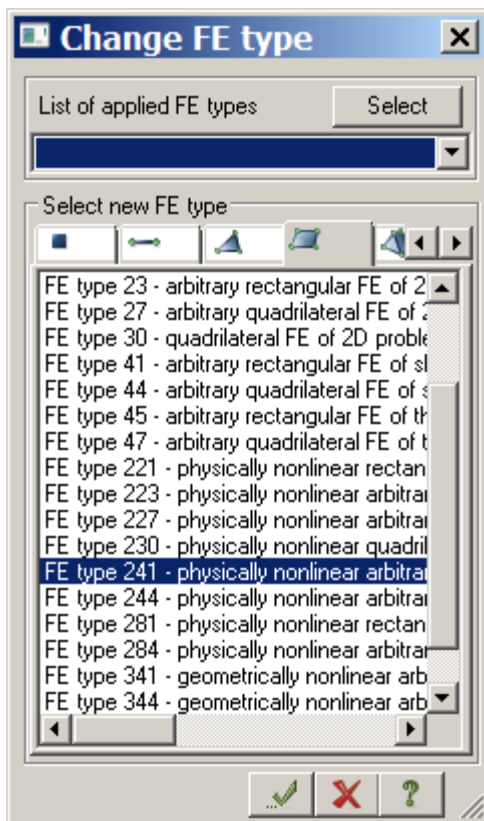

Figure 16.12 **Change FE type** dialog box
- ⇒ In the **Change FE type** dialog box (see Fig.16.12), in the **list of FE types**, select **FE type 241 – physically nonlinear arbitrary rectangular FE of shell**.